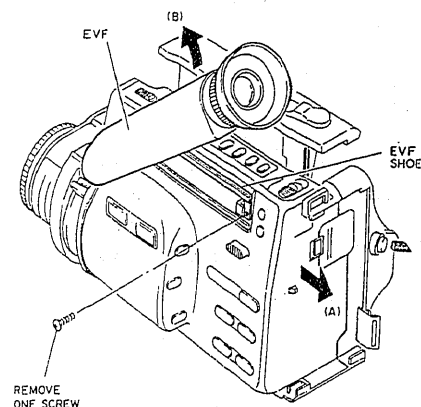
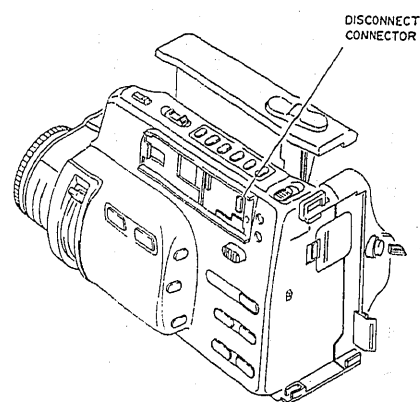

Fig. 2-1
Fig. 2-2
- 1) Move the EVF in the direction of arrow (A). (See Fig. 2-1)
- 2) Turn the EVF in the direction of arrow (B).
- 3) Remove one (1) screw and remove the EVF shoe in the direction of arrow (A).
- 4) Disconnect connector CN801. (See Fig. 2-2)